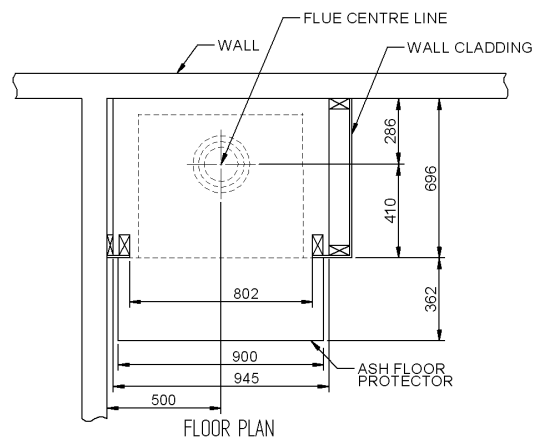

Fig. 3
1. Inspect the house construction at the proposed installation position to verify that the flue casing (250mm diameter, plus 12mm clearance all around) can pass right up through the ceiling space without requiring the removal of essential roof or ceiling support beams. The flue center-line will be 286mm from the rear wall and it must be at least 500mm distant from any side wall. (See Fig. 3).